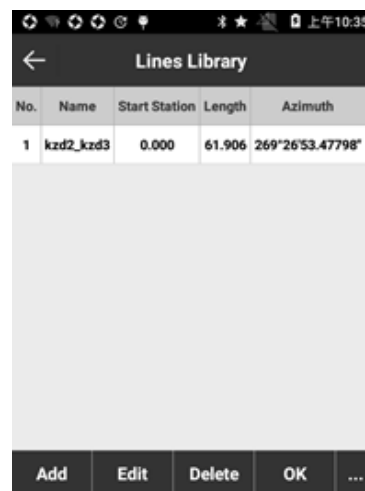

Figure 5.5-2
-  Lines library. As shown in Figure 5.5-2, Lines library includes six operations, namely Add, Edit, Delete, OK, Import and Export.